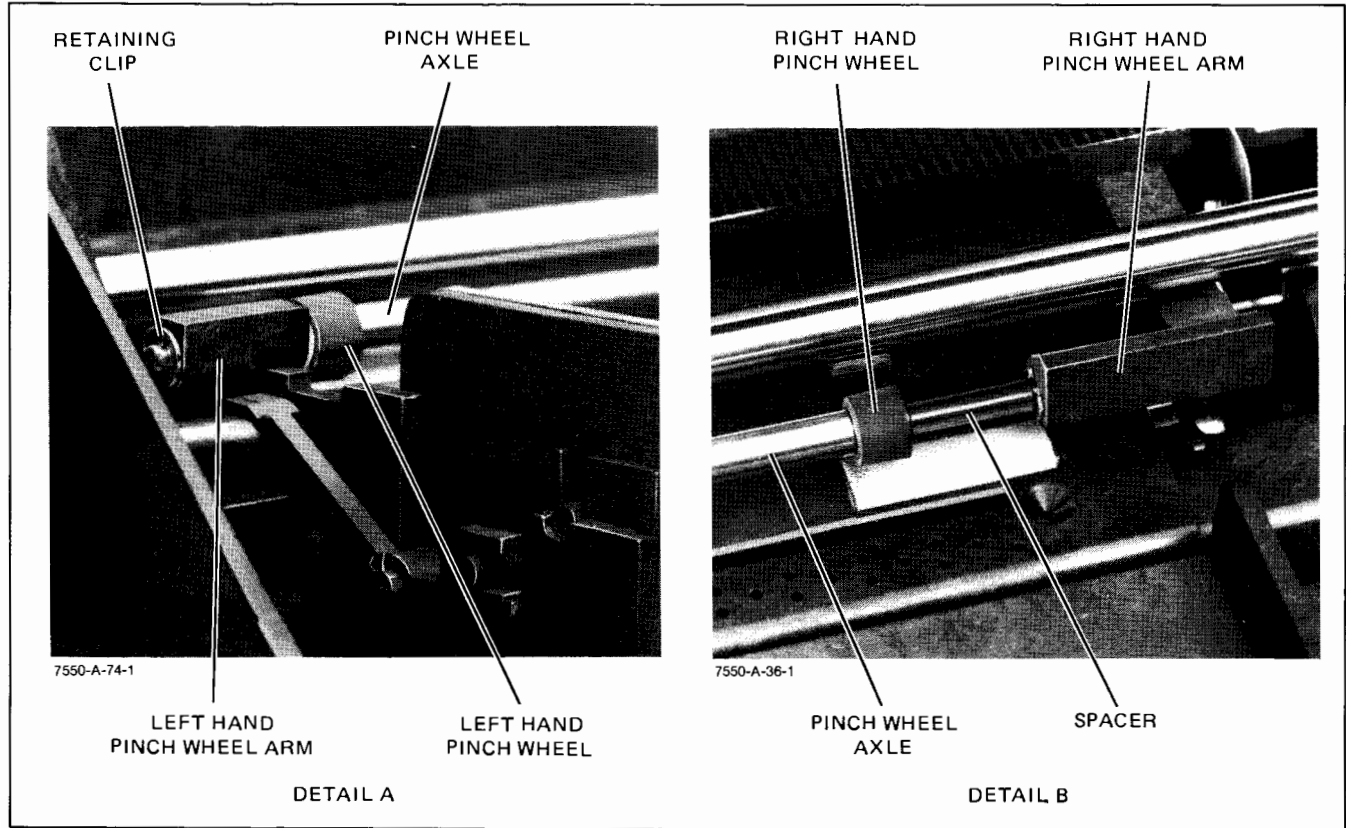

Figure 6-31. Pinch Wheel and Pinch Wheel Axle Removal
- Remove the left-hand pinch wheel arm retaining clip. See Figure 6-31, Detail A.
- g. Slide the pinch wheels off of the pinch wheel axle. Note that the small diameter ends of the pinch wheels face toward each other. Also note the placement of the spacer to the right-hand pinch wheel for proper media size configuration. See Figure 6-31, Detail B.
- c. Remove the left-hand pinch wheel arm retaining clip. See Figure 6-31.